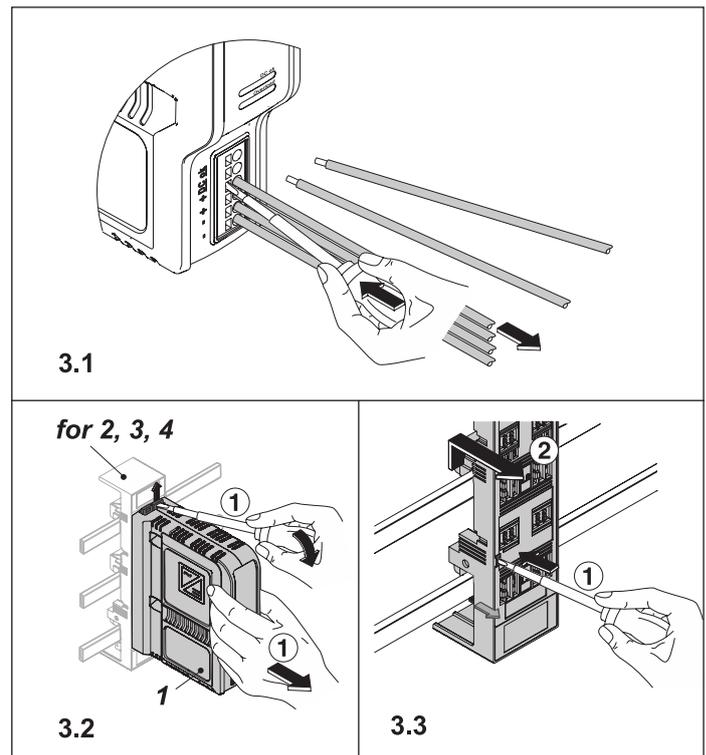

Figure 3
6.2. Dismounting the power supply (Figure 3)